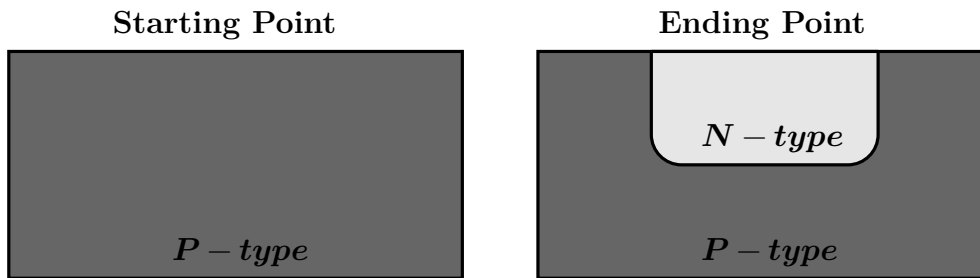

Figure 1 Starting and Ending Substrate
5) (12 points) An N doped well must be made in the center of a P doped substrate; with the aid of pictures and description, show the three steps (using the starting and ending points shown in Figure 1) that could be taken to produce this structure. Hint: Assume that any washing isn't a step on its own. Be as specific as possible about what's being done.